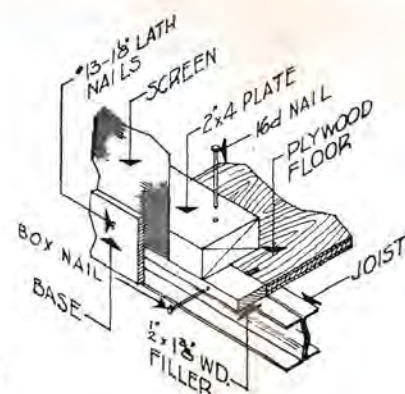

FIG. 4
1. With 10d Box nails, nail the $\frac{1}{2}$ " x $1\frac{3}{8}$ " wood filler strip (see Fig. 4,) to edge of plywood floor for the width of the hut. Center metal door sill on centerline of hut and screw to floor with holtite screws.